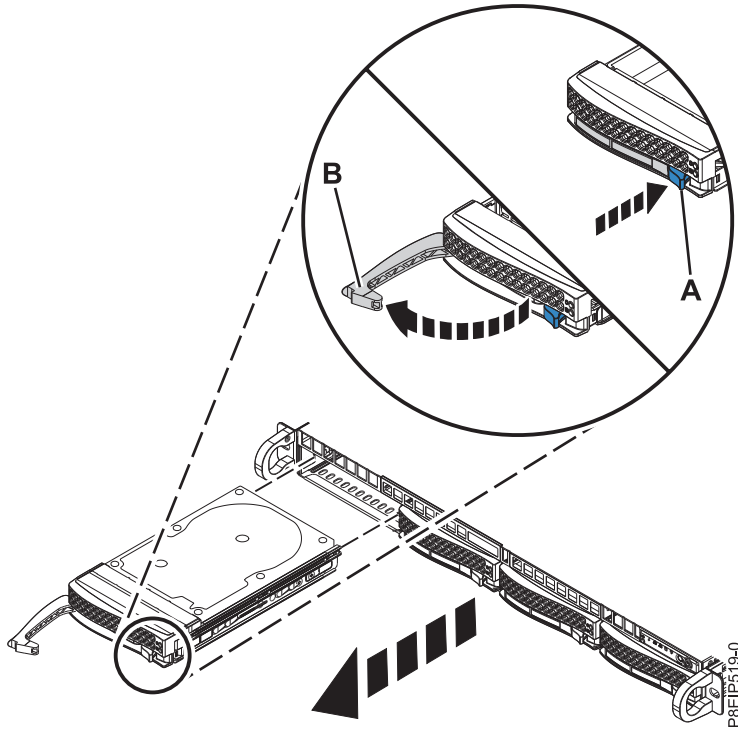

Figure 1. Removing a disk drive
3. Using the position information, unlock the drive bay handle (**B**) by pushing in the handle release latch (**A**) as shown in Figure 1 on page 4. Pull out the handle (**B**) towards you. If the handle is not all the way out, the drive cannot slide out of the system. Remove the drive from the system, supporting the bottom of the drive. If the drive does not match the model and serial number you wrote down in the previous step, reinstall the drive in the drive bay you removed it from, and check the other drive bay.